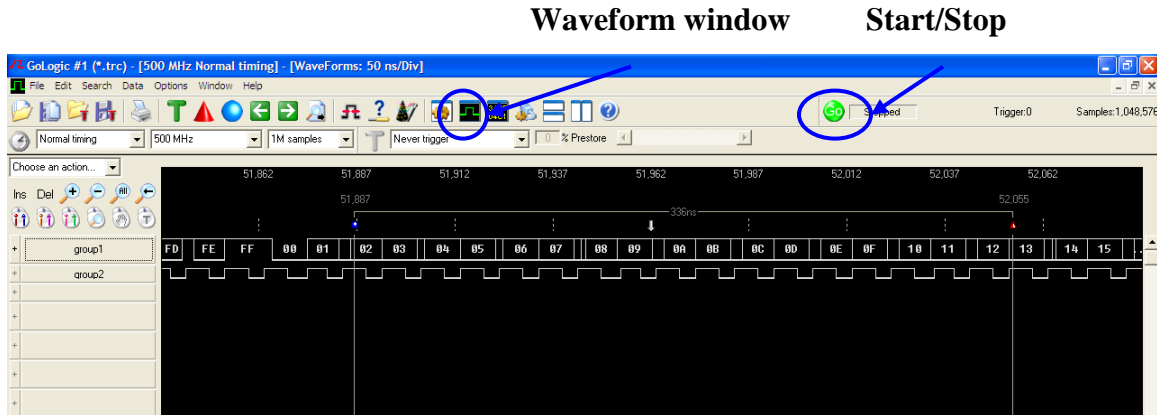

Figure 4. Sampled data of 4-bit counter design.
10. Open the GoLogic's waveform window by clicking the **“waveform”** button shown in Figure 4. Click the **“Go”** button. The logic analyzer will start sampling the signals immediately since no triggering schemes have been applied. To view the sampled waveform, click the **“Stop”** button; the sampling process will be halted and the data will be transferred to PC via the USB interface. You will see the waveform displayed on the waveform window after zooming-in an appropriate amount.